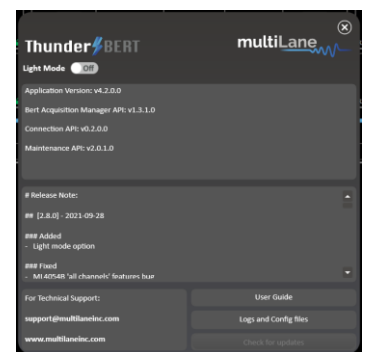

Figure 7: About Window
- **About Window** (Figure 7) will give you access to the necessary information about the product including: